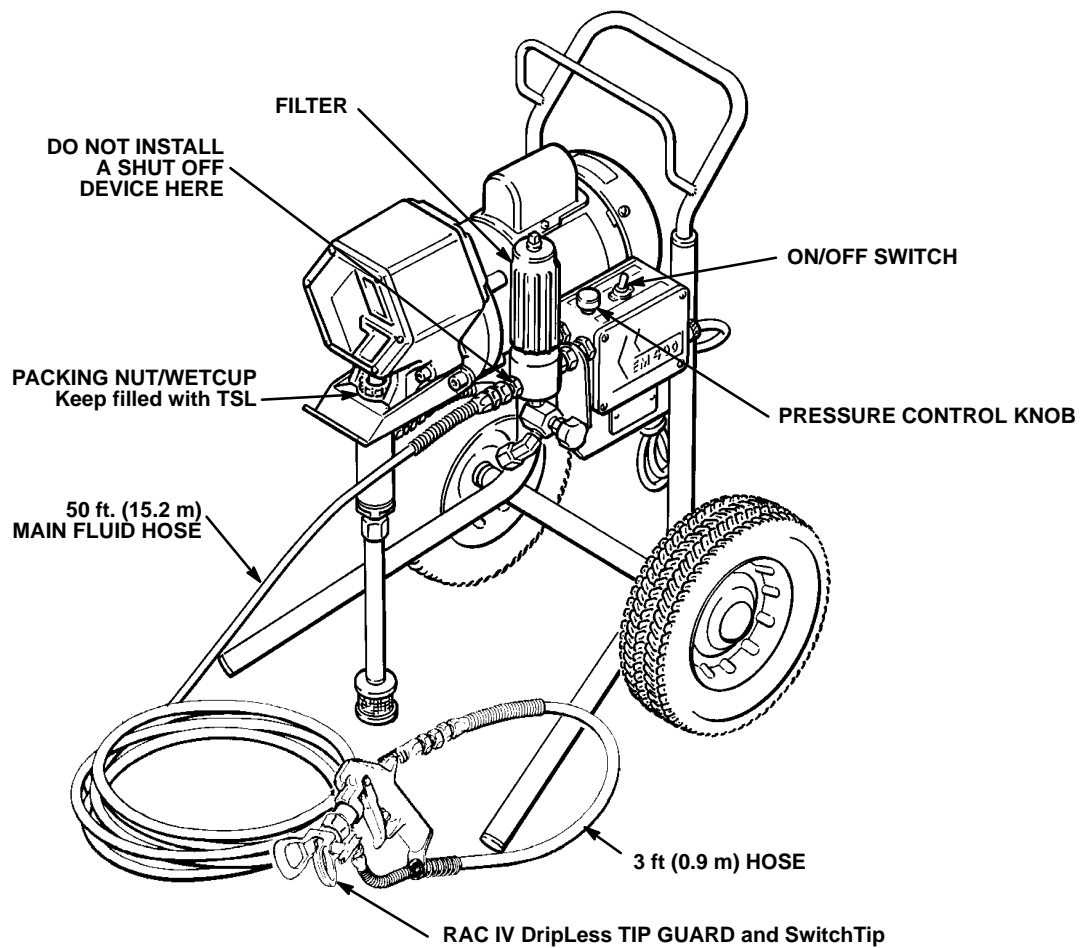

Fig 1
3. Never install any shutoff device between the filter and the main hose. *See Fig 1.*
1. **Connect the hose and gun** (*See Fig 1*)
2. **Fill the packing nut/wet-cup** 1/3 full with Graco Throat Seal Liquid (TSL), supplied. *See Fig 1.*
- a. Be sure the ON/OFF switch is OFF. *See Fig 1.*